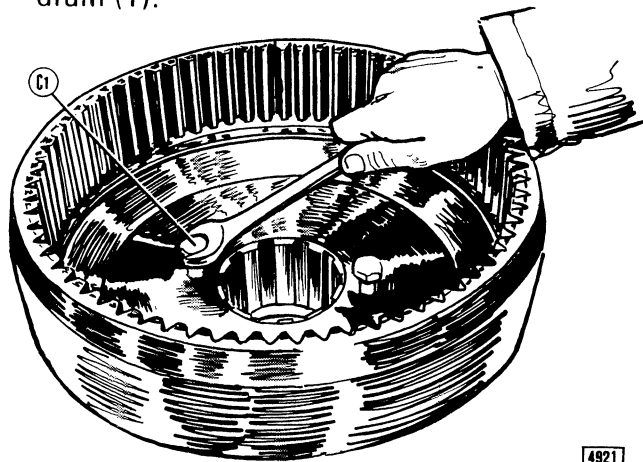

Fig. 8.9 - Wheel hub bearing inner ring removal
- Undo the chain and using the same two screws pull out the inner ring of bearing (7) Fig. 8.2 as shown in Fig. 8.9.